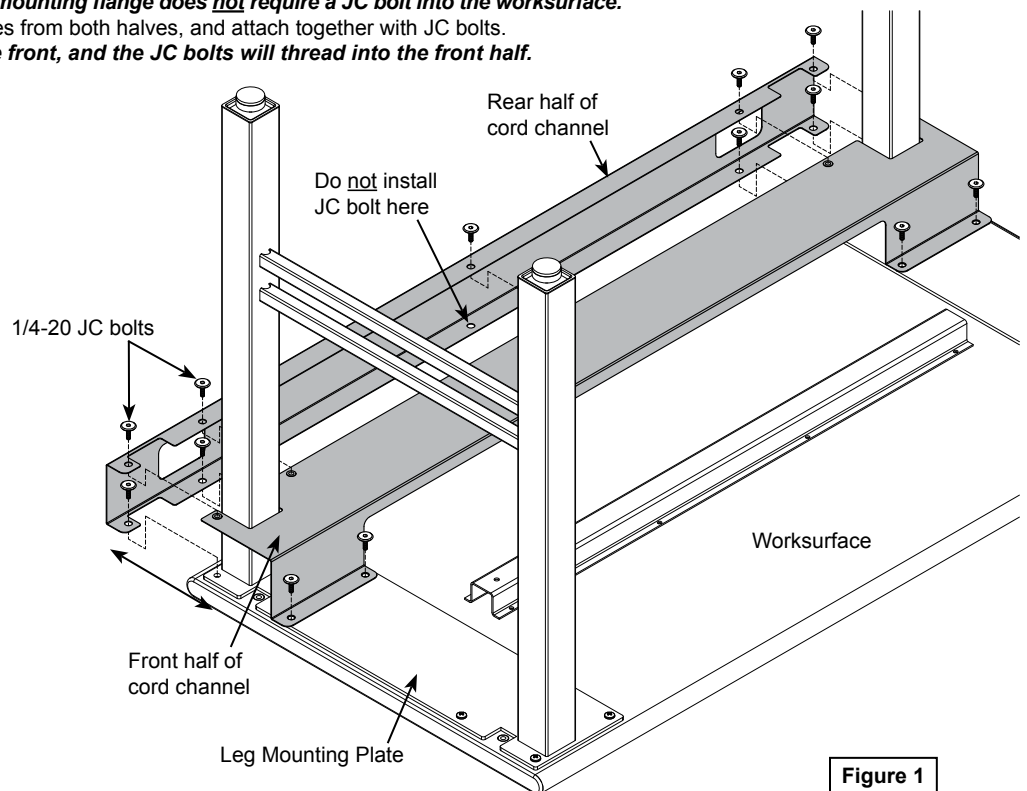

Figure 1
3. Attach the front half of the cord channel to the worksurface (through the leg mounting plates) as shown using 1/4-20 JC bolts and tighten securely. **Figure 1**.